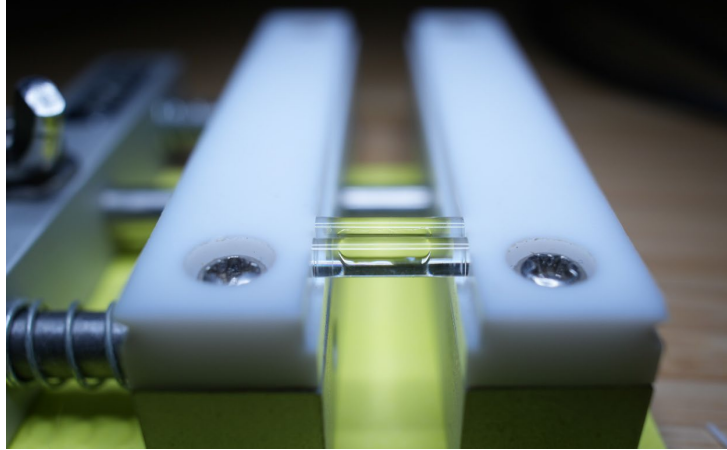

Figure 1.1: Pair of light pipes in vice.
- Place light pipes in pairs in the vice. (see Figure 1.1)